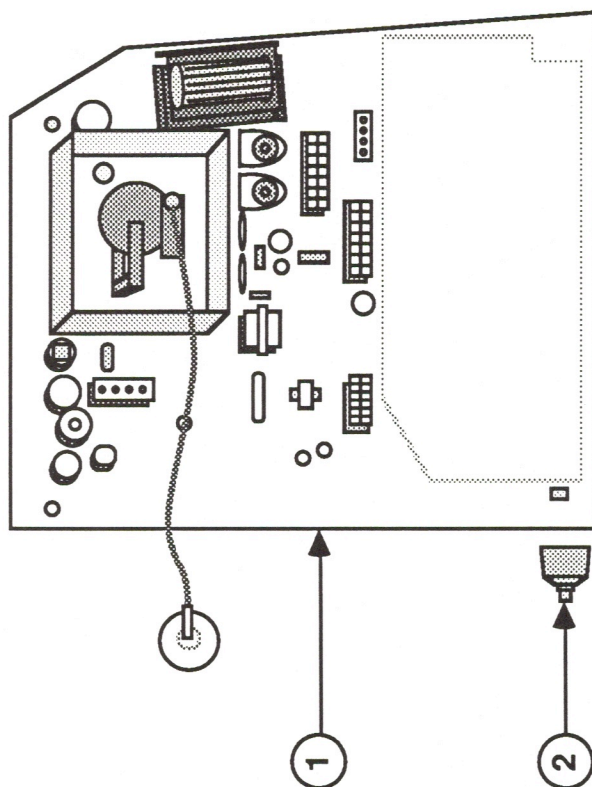

FIGURE 5
IPL.11	Analog Board (Figure 5)
□ **MACINTOSH SE – ANALOG BOARD (Figure 5)**